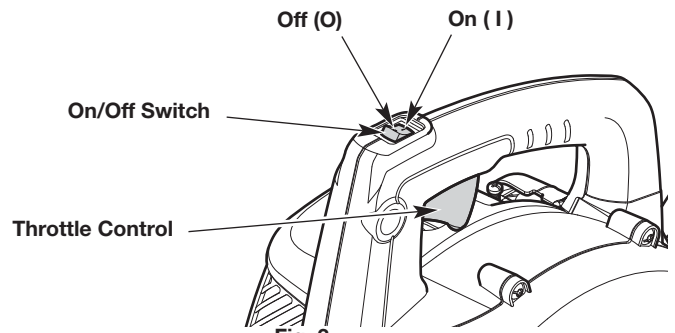

Fig. 3
NOTE: There is no need to turn the unit on. The On/Off switch is in the ON (1) position at all times (Fig. 3).
NOTE: **SQUEEZE** and **HOLD** the throttle control for **ALL** further steps (Fig. 3).
6. Squeeze and hold the throttle control (Fig. 3). Pull the starter rope with a controlled and steady motion **5 times** (Fig. 5).
2. Press and hold the On/Off switch in the **OFF (O)** position until the engine comes to a complete stop (Fig. 3).